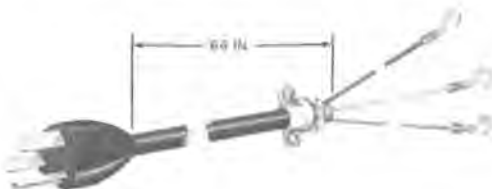

Fig. 1—KS-19425, List 22 Cable Assembly
- KS-19425, List 22 cable assembly (Fig. 1) —Used to bring power into the top of an indoor booth.